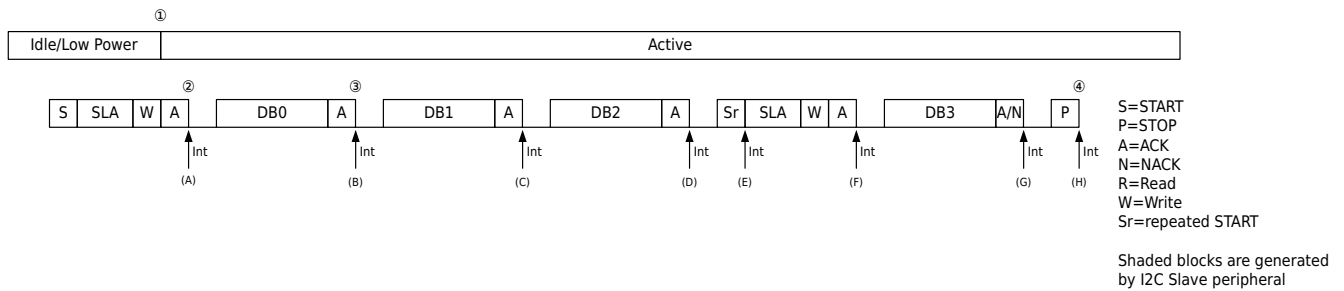
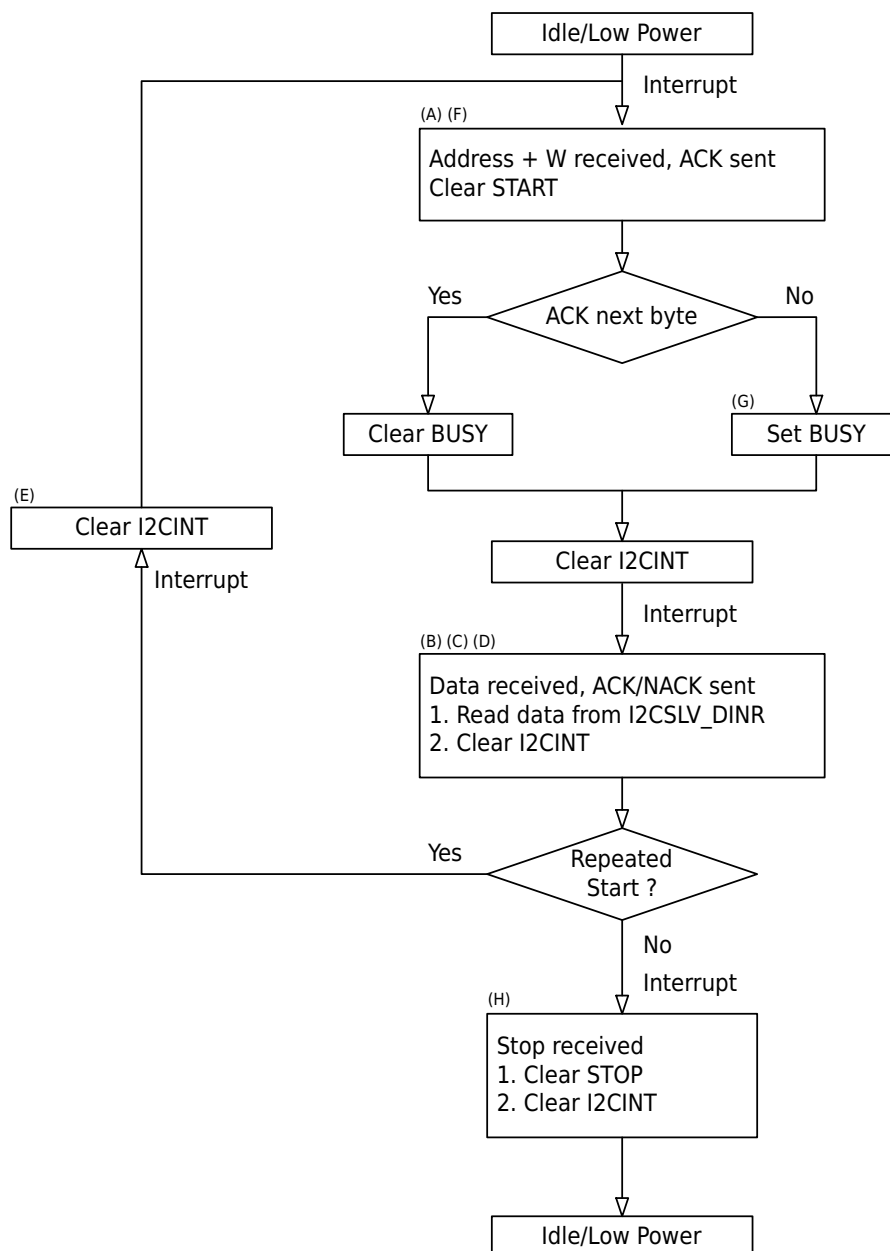

Figure 23-2 Example of I2C Master Transmitting and Slave Receiving Sequence
Figure 23-3 I2C Master Transmitting and Slave Receiving Operation Flow Diagram
- Step2.** An interrupt will be generated after the ACK in the address phase. This module automatically determines whether the received data is full. If it is full, it will pull SCL low and wait until the software writes I2CSLV_ICR.I2CINT=0 before releasing it; If the software writes I2CSLV_CR.BUSY=1, SCL will no longer be pulled low after receiving the current data (that is, it will no longer respond to the master). The software executes when Figure 23-3 : I2C Master Transmitting and Slave Receiving Operation Flow Diagram pressed.
Figure 23-2 : Example of I2C Master Transmitting and Slave Receiving Sequence example is given, including various states, Figure 23-3 : I2C Master Transmitting and Slave Receiving Operation Flow Diagram describing this sequence and software interrupt operations.